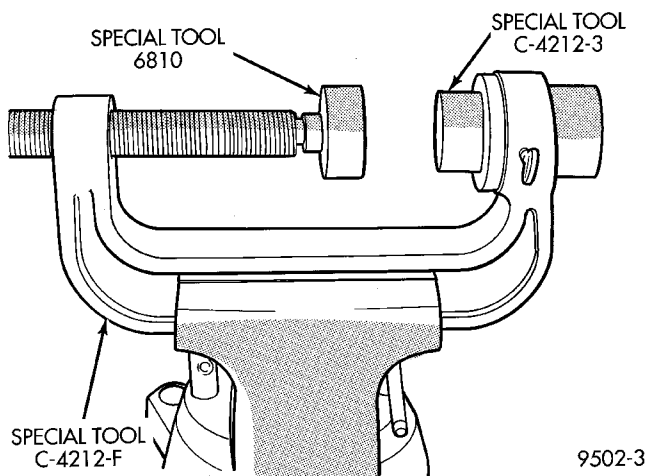

Fig. 73 Special Tools Assembled For Installing Front Bushing
(1) Mount Installer Cup, Special Tool C-4212-F on Remover/Installer, Special Tool C-4212-F (Fig. 73). Then mount Bushing Installer, Special Tool 6810 on screw portion of Remover/Installer Special Tool C-4212-F (Fig. 73).